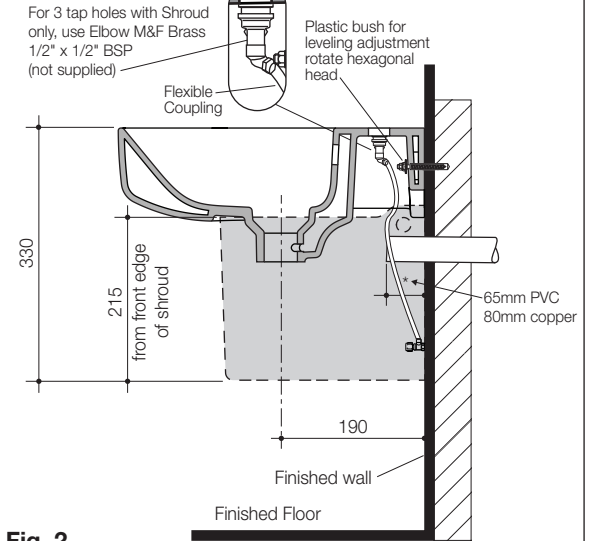

Fig. 2
- 2- Ensure basin is secured and plumbing is connected. Water inlet connections must be positioned as shown in **Fig. 3**. The brass elbow shown in **Fig. 2** to be used only on 3 Tap hole basin (not supplied).